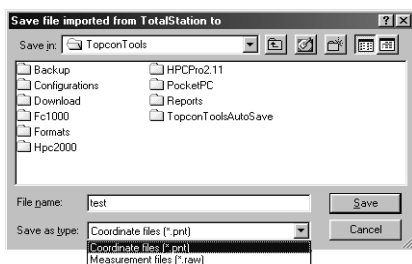

Figure 2-26. Save Imported File
7. On the *Save file imported from Total Station to* dialog box, define a folder for the file, select the file type and enter a file name (Figure 2-26).